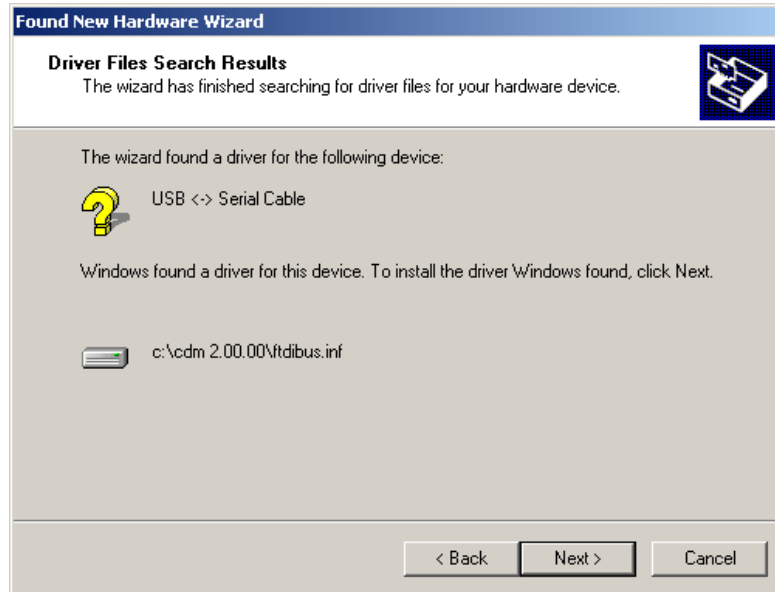

Figure 29. Driver Found Window
- Once Windows has found the required .INF driver file (Figure 29), click next to proceed.